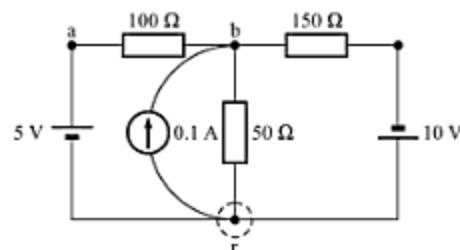

Fig. 3.76
17. Find the current downward in the  $50\text{-}\Omega$  resistor in the circuit shown in Fig. 3.76, by first solving for  $v_b$  using node-voltage analysis.